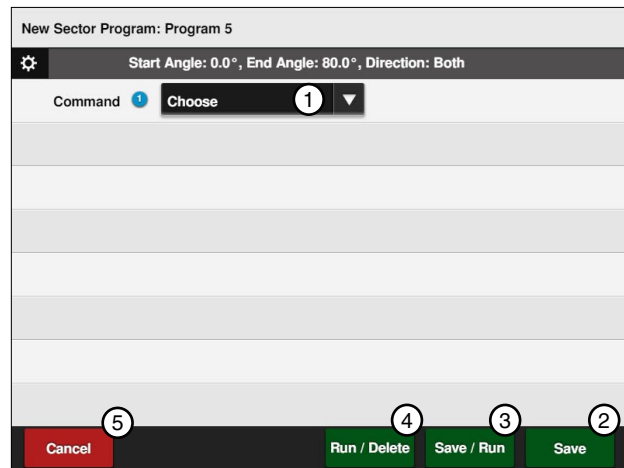

Figure 142-3 1. Choose Command 2. Save 3. Save / Run 4. Run / Delete 5. Cancel
12. To choose the commands for this sector follow these steps: Refer to Figure 142-3.